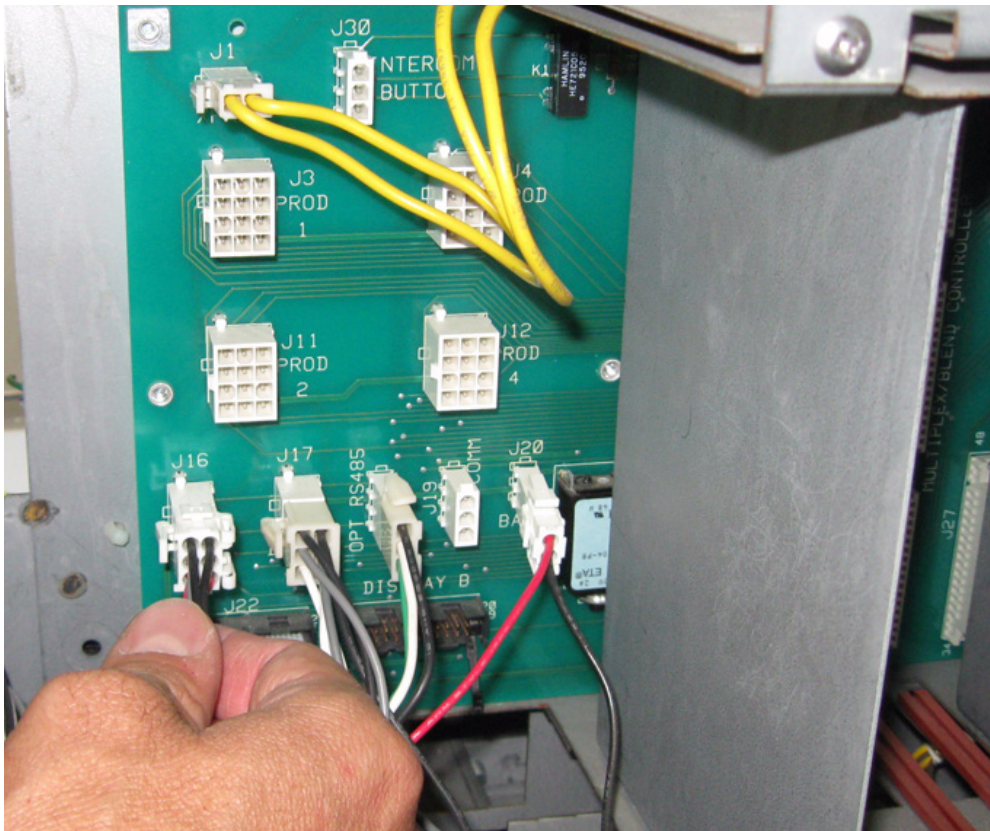
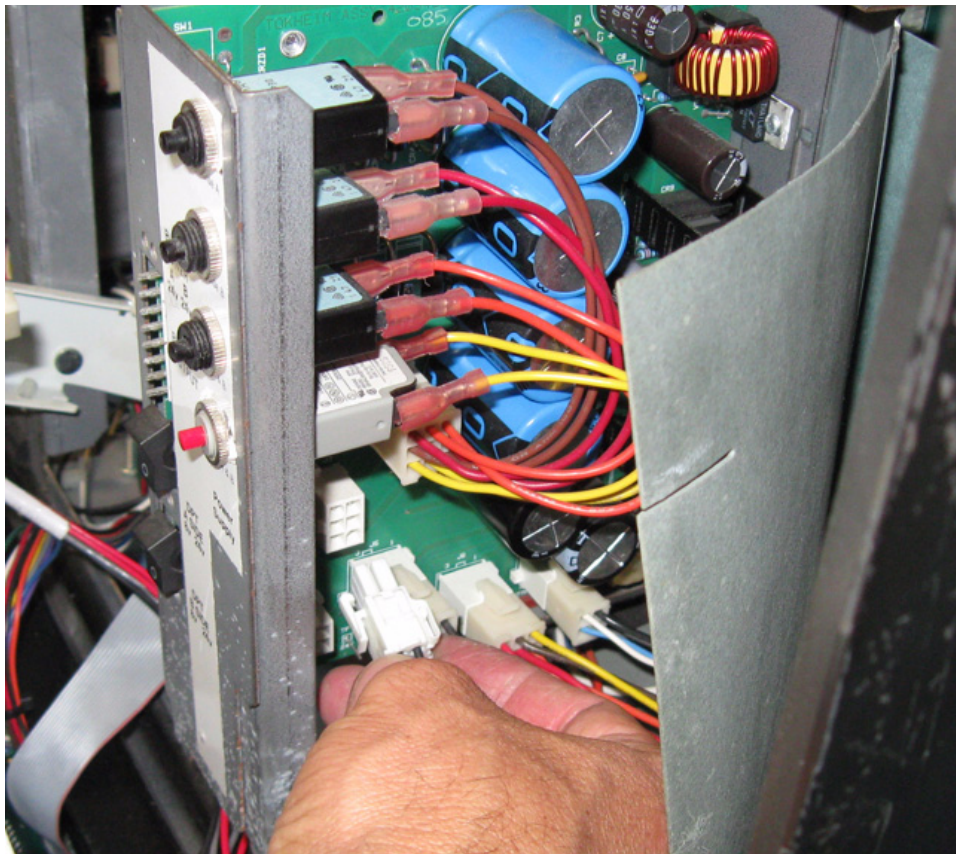

FIGURE 12
FIGURE 13
14. Untie wrap and discard all cables that were disconnected from the DPTs and all cables disconnected from the printer doors, including cables to J16 and J17 on motherboard Fig 12 and cable to J3 on the DC Power Supply Fig 13. (Do not remove the RS-485 cables.)